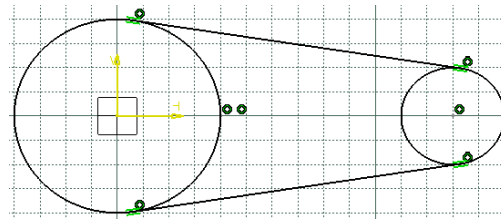

Figure 3-54 The sketch after drawing the second tangent line
- Similarly, draw a tangent line on the lower side of the sketch by selecting the fourth quadrants of the first and second circles. Figure 3-54 shows the sketch after drawing the second tangent lines.